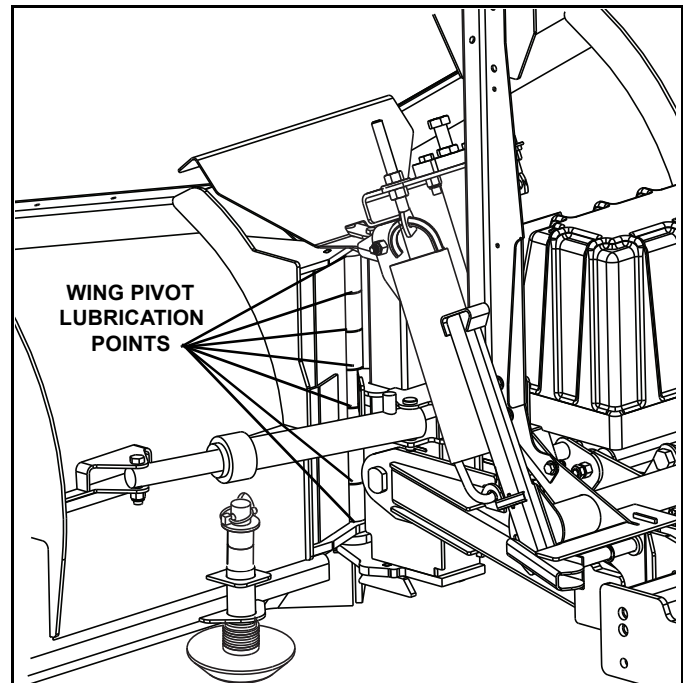

Figure 2-1
3. Apply oil or grease to the wing pivot pin between the hinge tubes and plates. (See Figure 2-1.)